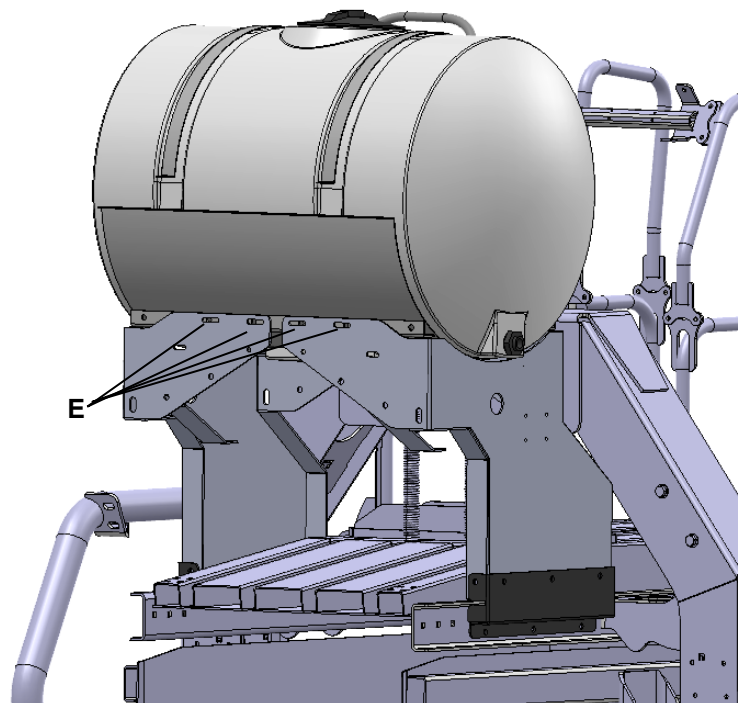

Figure 5
4. Once the tank legs and support brackets are in place, attach the tank and saddle assembly (001-6706A) to the legs with eight 3/8" x 1-1/4" bolts, locks, and flat washers at point E in figure 5. For 3 x 3 balers the slots in the legs will attach to the second and fourth weld nuts in from each end, of the saddle, on both sides.